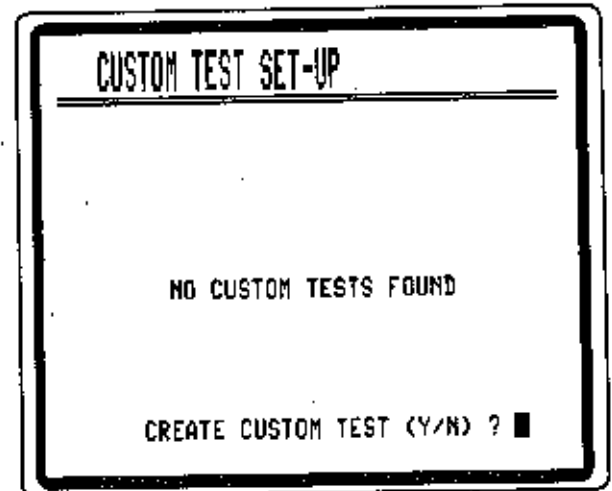

Figure 146
1. Select "Create Custom Tests" from Automatic Testing menu. If no custom tests exist yet, the screen reads "CREATE CUSTOM TESTS (Y/N) ?" (see Figure 146). If one or more custom tests do exist, bottom line of screen offers three selections: